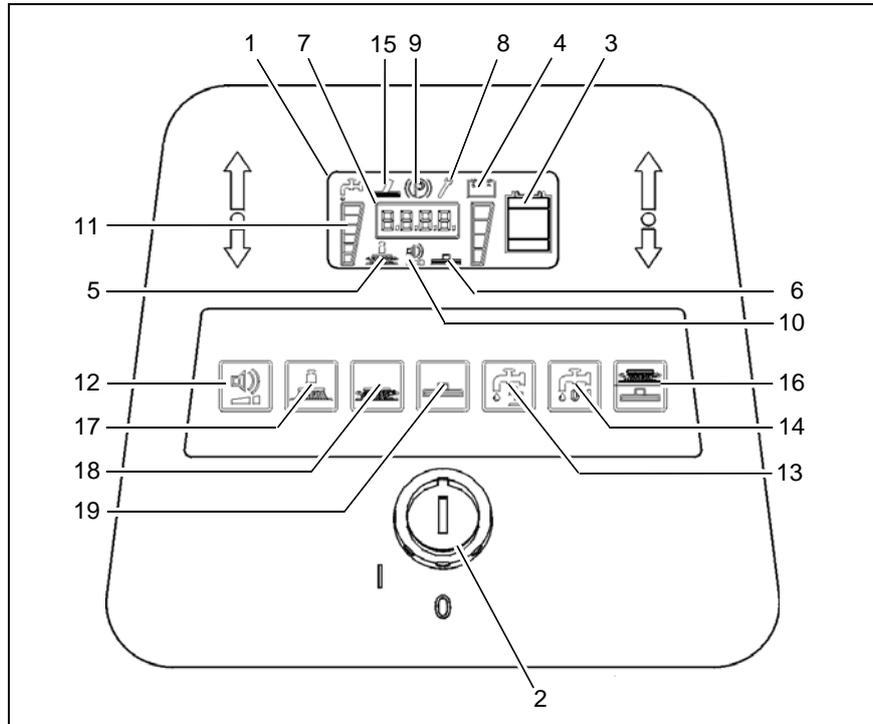
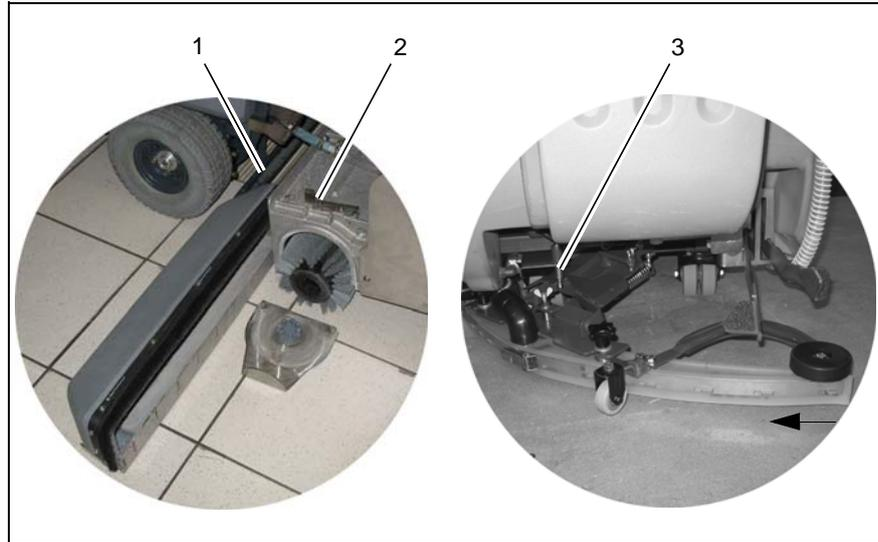

Fig.4
Fig.6
2. Set the machine to standby by actuating the button (Fig. 4/16). The following functions are activated:
4. If necessary, set the brush pressure with the button (Fig. 4/17) and fresh water flow rate with the button (Fig. 4/13).
Display (Fig. 4/1)
Battery charge indication (Fig. 4/3)
LDS indicator (Fig. 4/4)
Symbol brush drive (Fig. 4/5)
Symbol suction turbine drive (Fig. 4/6)
Hourmeter (Fig. 4/7)
Service indicator (Fig. 4/8)
Parking brake symbol (Fig. 4/9)
Silence Kit tip symbol (optional) (Fig. 4/10)
Fresh water dosage symbol (Fig. 4/11)
Silence Kit tip-switch (optional) (Fig. 4/12)
Fresh water dosage tip-switch (Fig. 4/13)
Fresh water supply ON/OFF tip-switch (Fig. 4/14)
Scrubbing tool symbol (optional) (Fig. 4/15)
Tip-switch brush head and suction turbine (Fig. 4/16)
Tip-switch squeegee and suction turbine (Fig. 4/19)
Tip-switch brush ground pressure (Fig. 4/17)
Tip-switch brush drive (Fig. 4/18)
Dirt hopper guiding rail (Fig. 6/1)
Lever for cylindrical broom seating (Fig. 6/2)
Swing aside the squeegee in lifted-out condition to allow passage through narrow clearances. This can be done by foot or by hand by swinging the squeegee to the left in the area of the deflector bail / deflector roller until the locking pin (Fig. 6/3) catches. In order to release locking of the squeegee, activated the tip switch (Fig. 4/19).